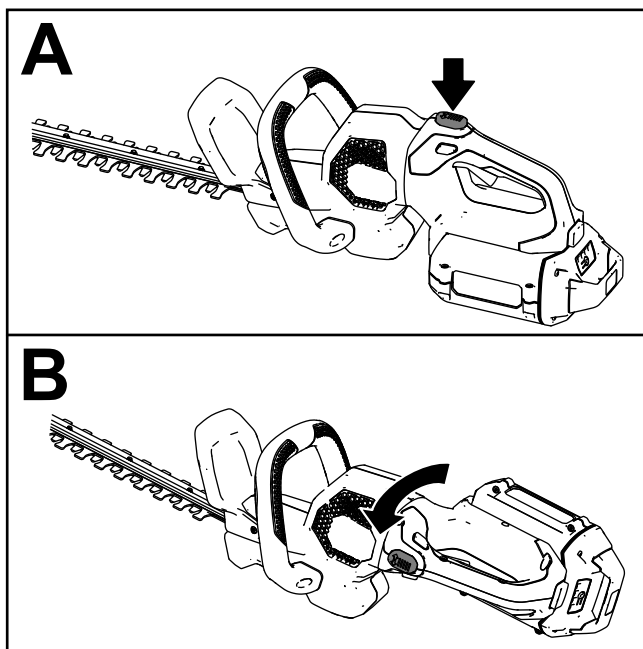

Figure 6
1. Press and hold the rotational lock button (A of Figure 6).
2. Rotate the handle 90° to the right or left depending on desired cutting direction, then release the rotational lock button to lock the handle in the desired position (B of Figure 6).